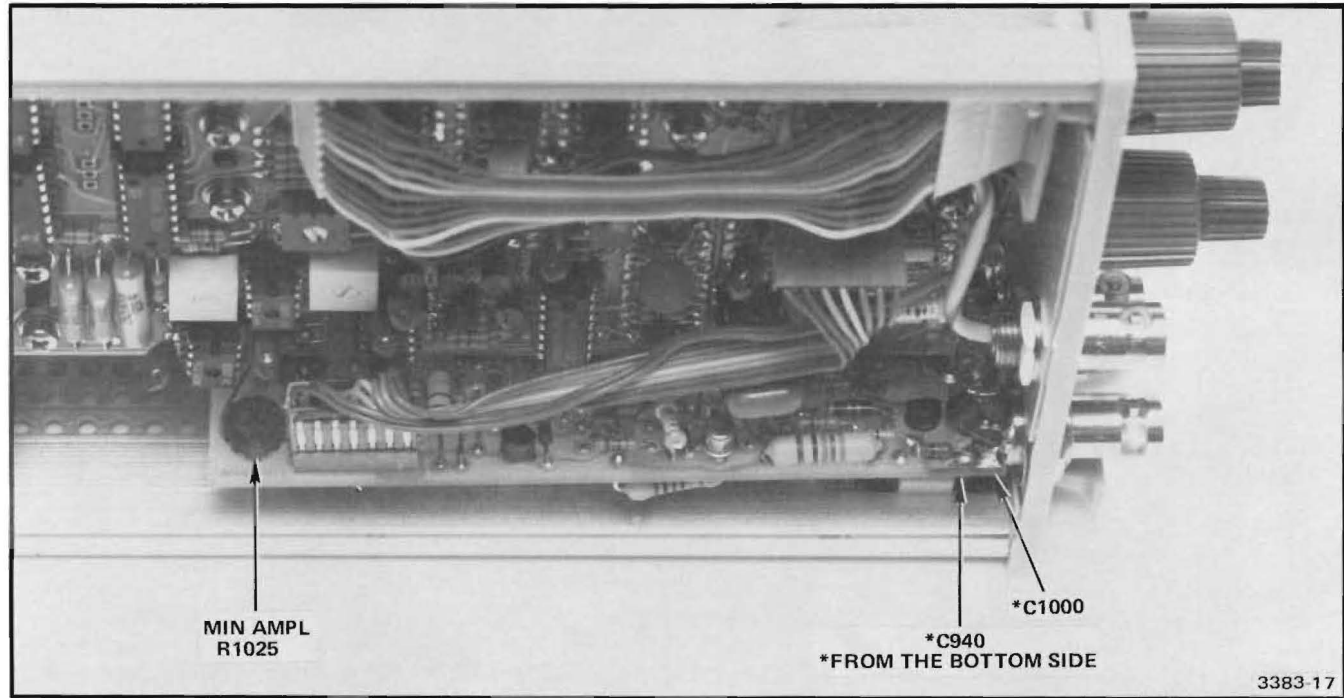

Fig. 4-7. Adjustment locations for the A3 Fast Rise Output circuit board.
- d. Adjsut—Min Ampl (R1025) for positive-going and negative-going FAST RISE OUTPUTS signal amplitude of ≥ 50 mV and ≤ 100 mV. Refer to Fig. 4-7.